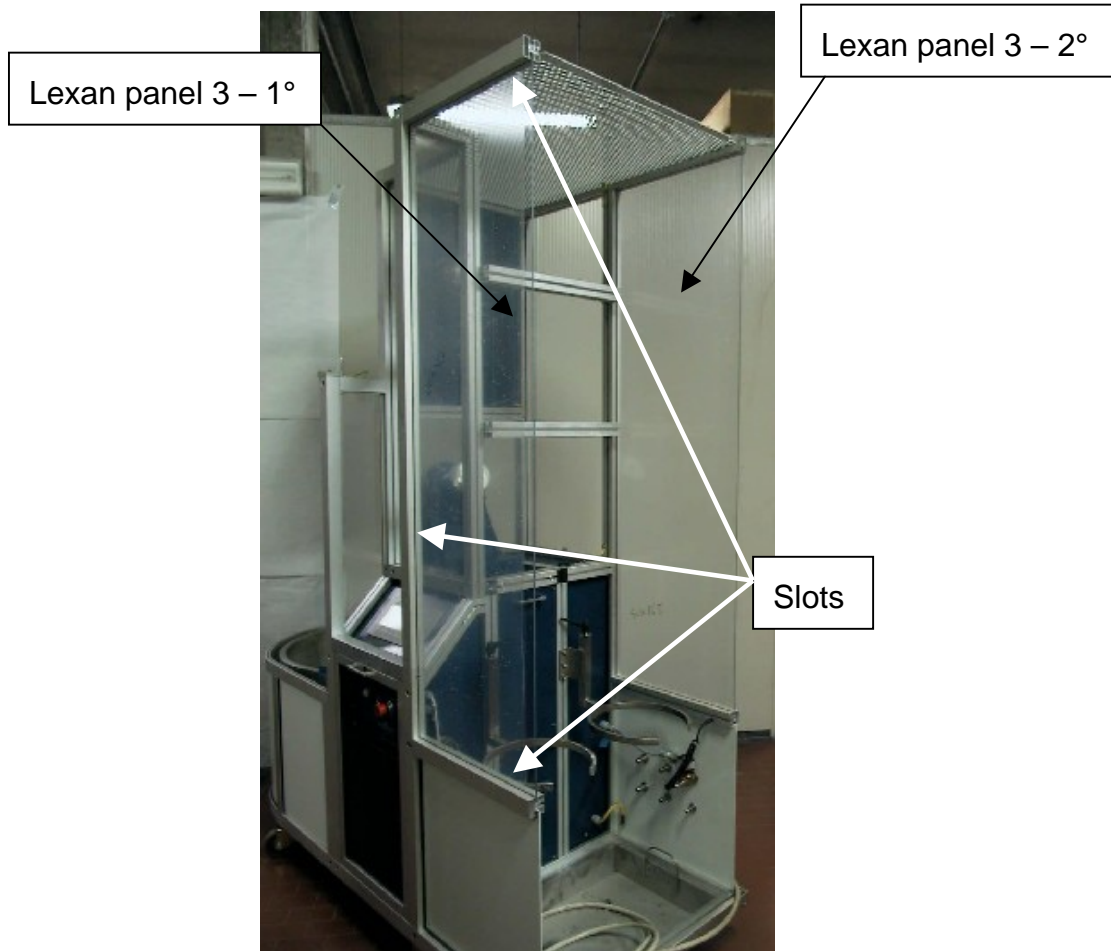

*Figure 9.*
*(Refer to figure 9 at the bottom of this paragraph)*